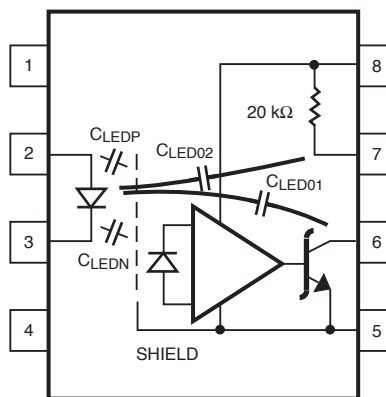

Figure 2. AC Equivalent for a Digital Optocoupler
The detector shield in the optocoupler prevents CMR failure due to capacitive coupling from the input side of the optocoupler, through the package, to the detector IC. However, this shield does not eliminate the capacitive coupling between the LED and the optocoupler output pins and output ground as shown in Figure 2. This capacitive coupling causes
Another cause of CMR failure for a shielded optocoupler is direct coupling to the optocoupler output pins through  $C_{\text{LED01}}$  and  $C_{\text{LED02}}$  in Figure 2. Many factors influence the effect and magnitude of the direct coupling including: the use of an internal or external output pull-up resistor, the position of the LED current setting resistor, the connection of the unused input package pins, and the value of the capacitor at the optocoupler output (CL). The recommended gate drive and IPM interface application circuits for Avago optocouplers have been optimized to reduce the likelihood of CMR failure.